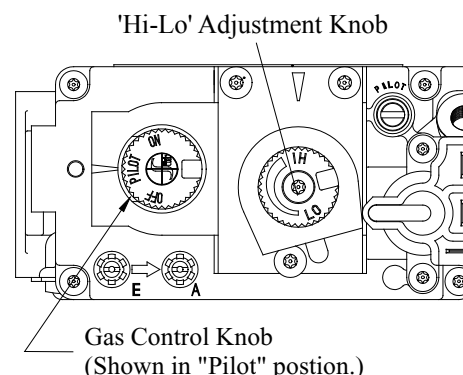

Figure 26. 'Hi-Lo' Adjustment on the ME38-ODV-2's gas valve.
- Have the fireplace installation inspected yearly, including a visual check of the vent system, the burner and the pilot flame. For your convenience a 1/8" manifold pressure tap is supplied on the gas valve for a test gauge connection. See Figure 26.